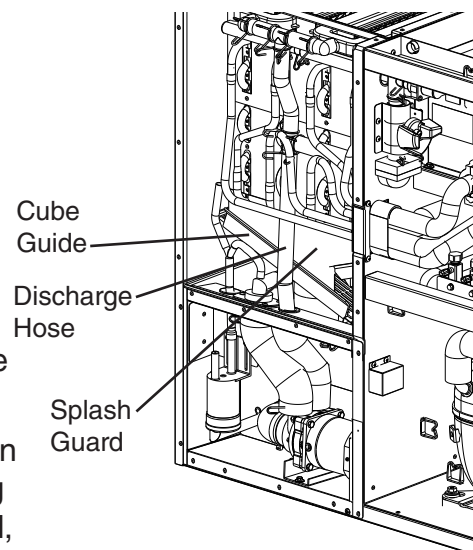

Fig. 11
- a) Remove the front insulation. Disconnect the discharge hose. Remove the splash guard and cube guide. See Fig. 11.